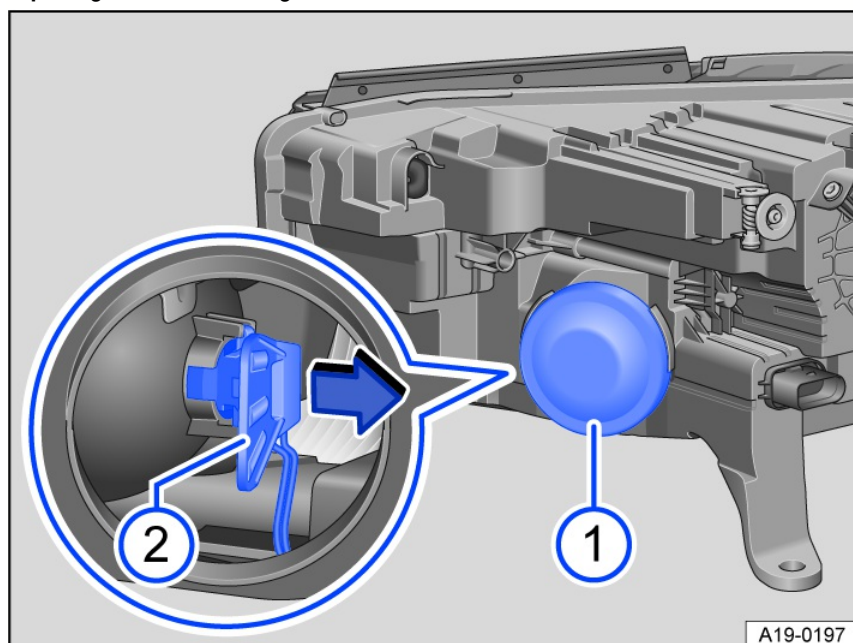

Fig. 171 In the right-side of the engine compartment: Rear side of the headlights.
- ① Turn signal bulb holder cover.
- ② Turn signal bulb holder.
1. Remove the rubber cover *fig. 171 ①*.
2. Pull out the lamp holder by the handle in the direction of the arrow *fig. 171 ②*. At the same time, press the handle slightly up and down alternately, in order to aid removal.
4. Carefully insert the lamp holder in the headlight and press it forwards until it perceptibly engages *fig. 171 ②*.